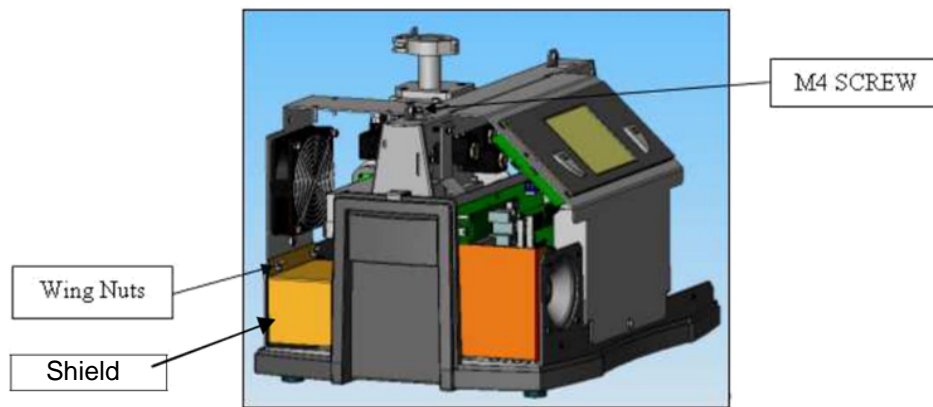

Figure 2: Plastic Shield
5. Remove the two wing nuts holding the plastic shield around the leak detector power input area and remove the shield (“Figure 2: Plastic Shield”).
6. Remove the fan assembly by loosening the M4 socket head cap screw (“Figure 2: Plastic Shield”).